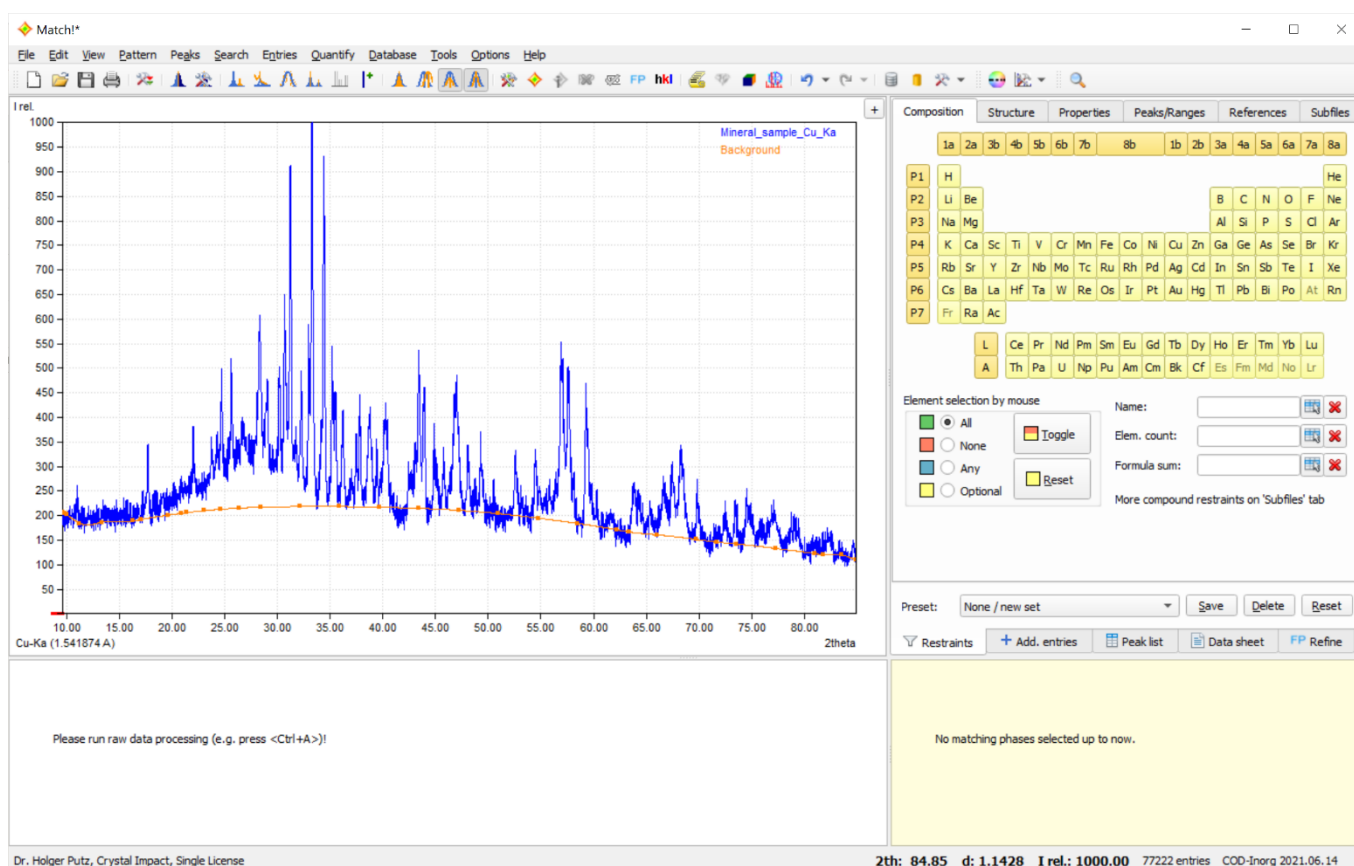

Fig. 23: Your sample's diffraction pattern has been imported for degree-of-crystallinity analysis (DOC).
5. In the pattern graphics, check the background that has been determined automatically so that it clearly separates the diffraction peaks from the background (Fig. 23). If you would like to modify the background, answer "No" to the corresponding question, modify the background (p. 20), and finally press the "Degree of crystallinity analysis" button  in the toolbar again to proceed.